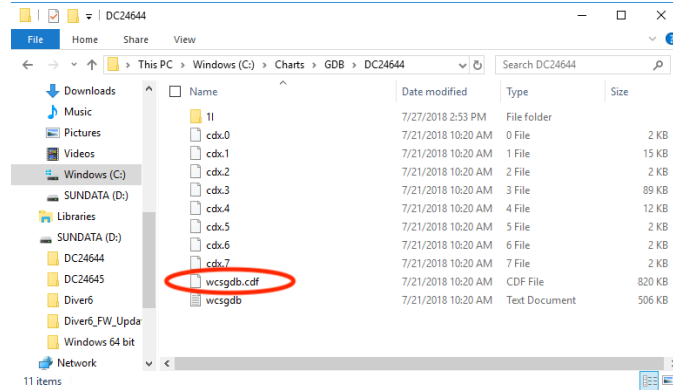

Figure 77: Chart Index File
7. Figure 77 is an example of the “.CDF” file. This file is the index file needed for S-63 charts to load in the Tile Server.
8. Click OK (Figure 77) when you are finished.